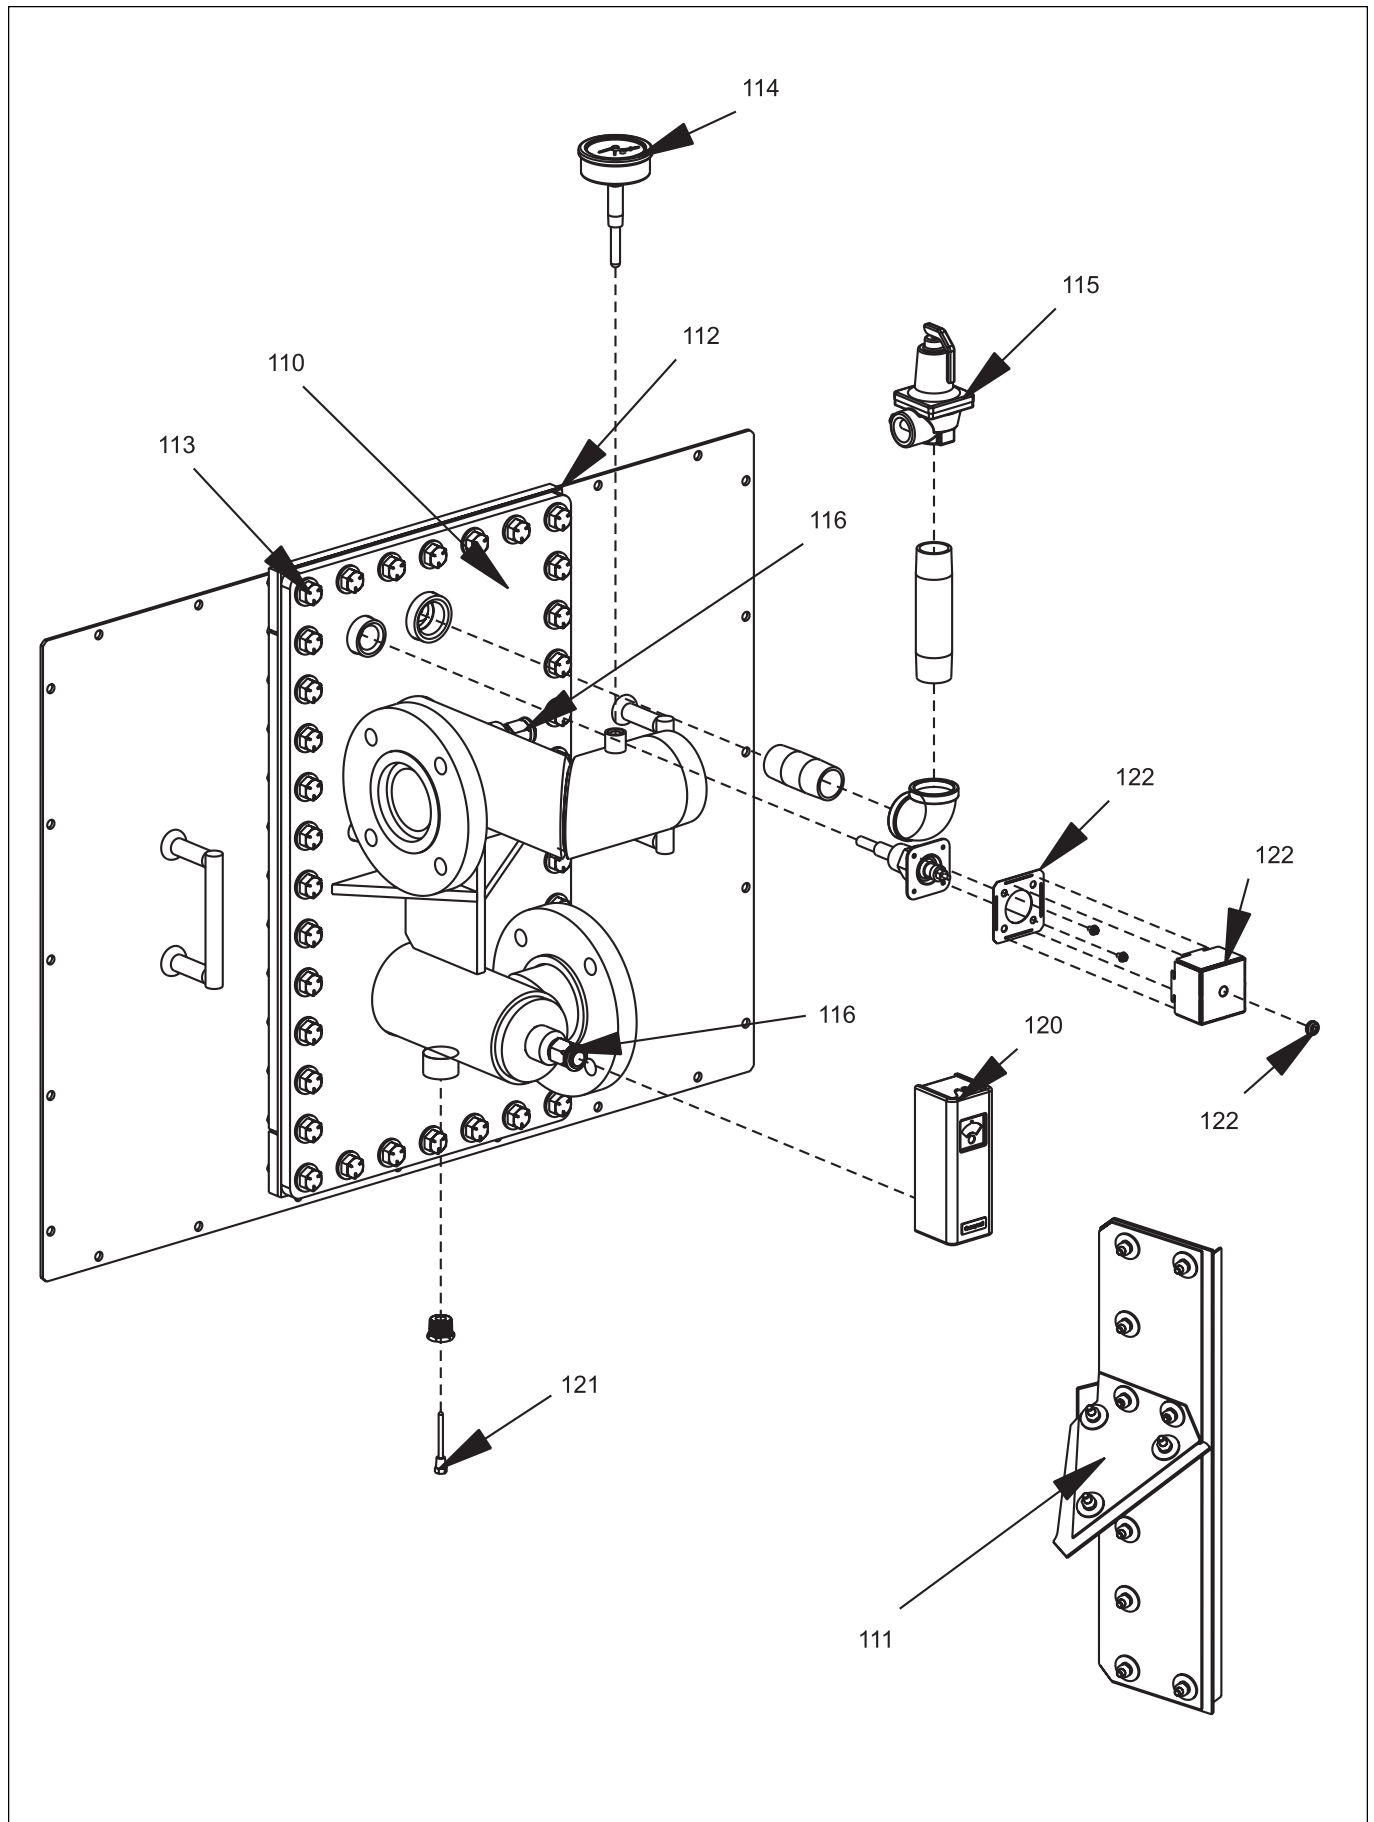

Figure 34. Heat Exchanger / Water Path Components.
**HEAT EXCHANGER / WATER PATH***See Figures 34 and 35*